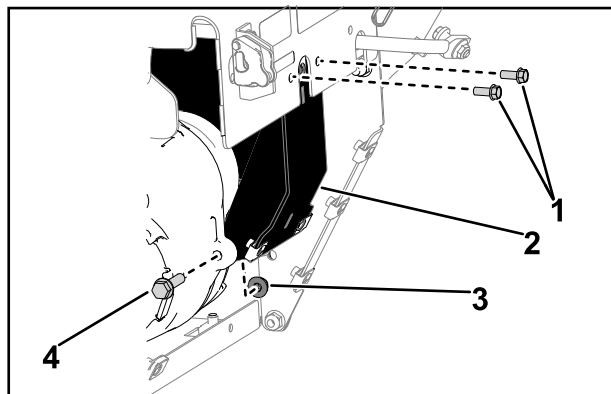

Figure 16
- B. Secure the bottom of the hydrostatic drive support to the hydro with the retained bolt (5/16 x 1-1/4 inch) and locknut (5/16 inch) (Figure 16).
3. Install the 2 screws (1/4 x 5/8 inch) securing the hydrostatic drive support to the top plate (Figure 16).